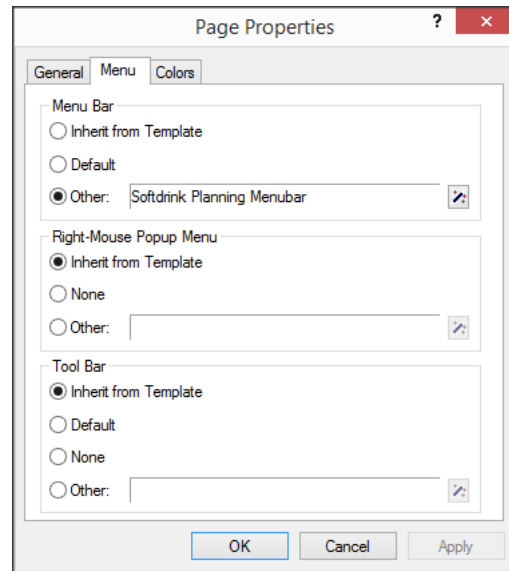

Figure 13.18: The **Menu** tab of the **Page Properties** dialog box
- ▶ select 'Other' as the Menu Bar option (see Figure 13.18),